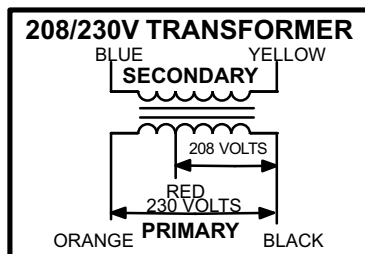

FIGURE 5
primary voltage taps as shown in figure 5, while 460 (G) and 575 (J) voltage transformers use a single primary voltage tap.